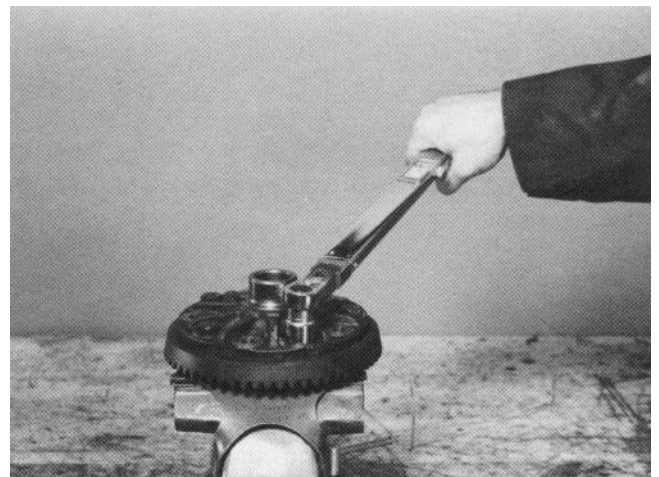

Figure 50
18. Position the ring gear onto the differential case and thread new cap screws into the ring gear. Tighten the screws, alternating back and forth across the gear to allow the gear to be pulled evenly into place. Torque cap screws from 45 to 65 ft-lb (61 to 88 N-m) to secure assembly (Fig. 50).